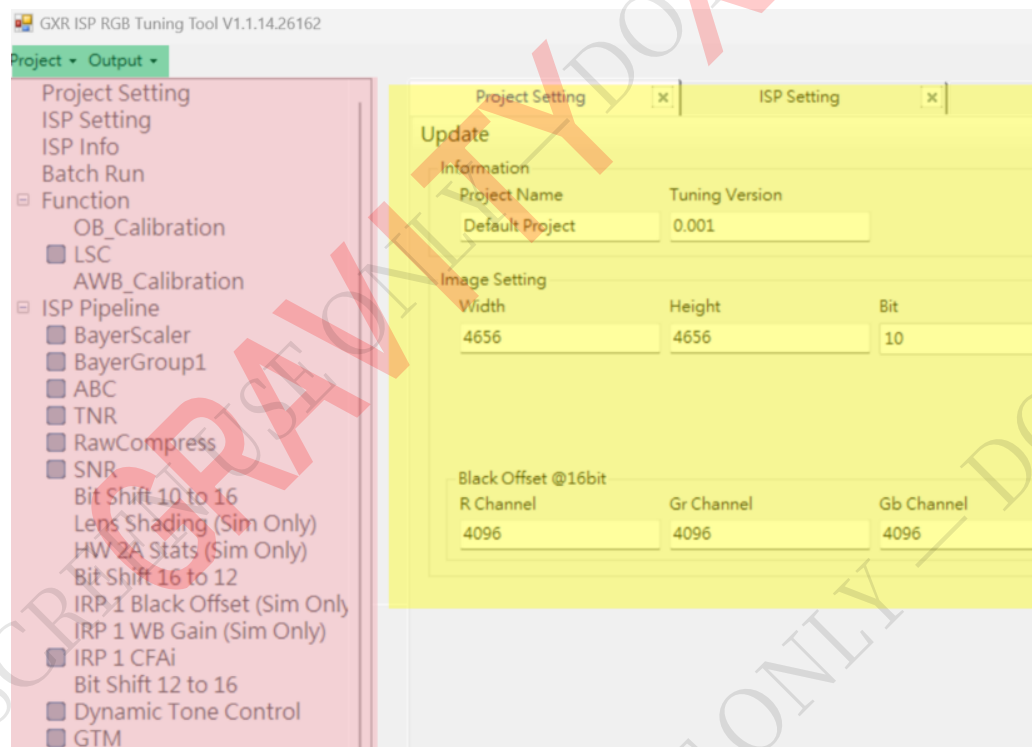

Fig. 3.3 Workspace of GravityXR tuning tool
1. **Project and output strip:** In the green region in Fig. 3.3, is for saving/ loading the project file (.json) which including off-line simulation settings and binary file (.bin) which is applied to update ISP parameters to GravityXR pipeline.
2. **Modules list:** In the red region in Fig. 3.3, including buttons for setting project file, loading input image, and lists of all ISP modules. User can select functions in modules list, and shows the features of the functions in modules page. Including 5 sections:
3. **Status icons:** In the blue region in Fig. 3.3, legends indicate the module's status of current simulation. Descriptions of each icon is shown below:
4. **Module page:** In the yellow region in Fig. 3.3, shows tuning pages of modules selected in modules list. Users can close page by clicking  on the right of module's name, and updates parameter to ISP by clicking 'Update' button in the top-left of module page. If parameters aren't updated before being closed, parameter updated last time when users open it again.